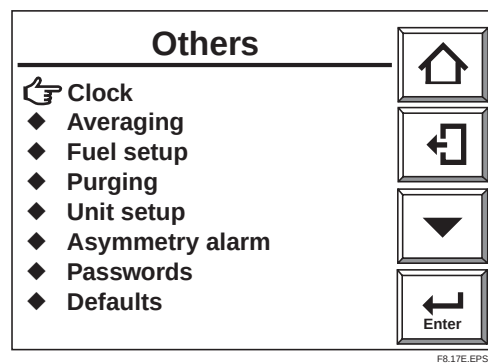

Fig. 8.17 Others setting display
- 3) Select [Others] and the display of Fig 8.17 appears.
- 5) Select [Set date] and the numerical entry display appears. To enter June 21, 2004 , enter [210604]. Touch the Enter key and you revert to the display of Fig 8.17.